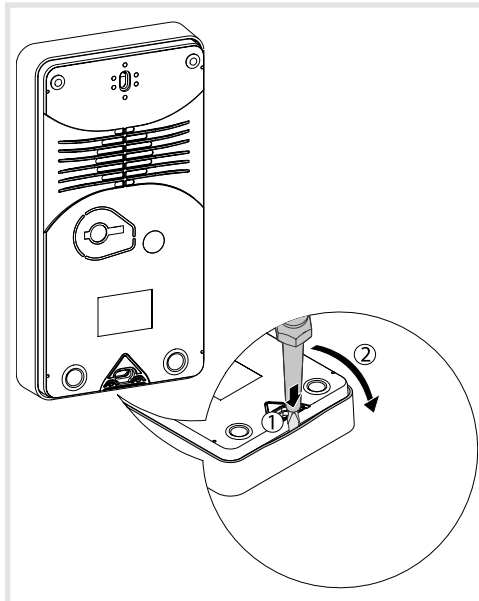

Figure 5: Opening for the first time 2
(13) Torx T10 screw
- Opening for the first time: insert 2 mm, a flat screwdriver (4 mm) between the front face and the fixing base and then lift it to unlock it (figure 5).